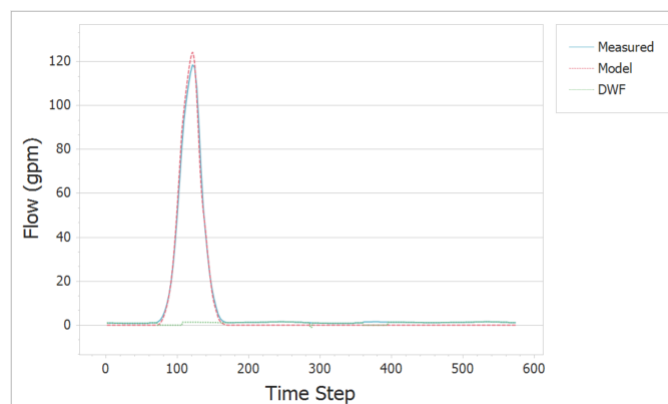

Figure 10: Measured vs Model results after RDII Calibration.
4. After running the calibration and the model, the *Plot* button will plot both the measure and calibrated results (**Figure 10**).